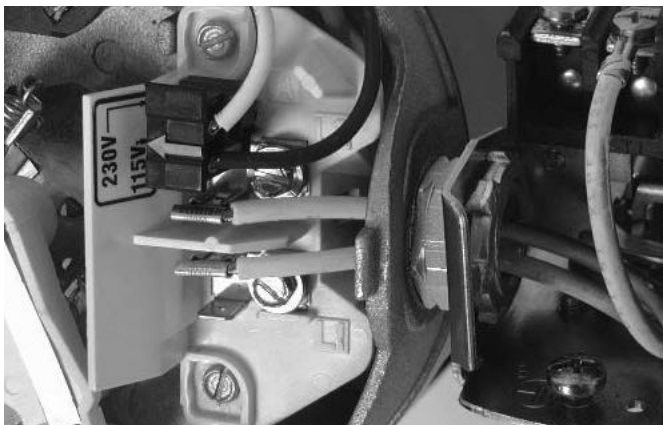

Figure 9: Voltage set to 115 volts, Plug Type
The plug will now cover 2 metal tabs and the arrow on the plug will line up with the 115V arrow on the label (see Figure 9).
1. Connect the ground wire first (Figure 9). The ground wire must be a solid copper wire at least as large as the power supply wires.
4. Connect the power supply wires to the pressure switch as shown in Figure 9.